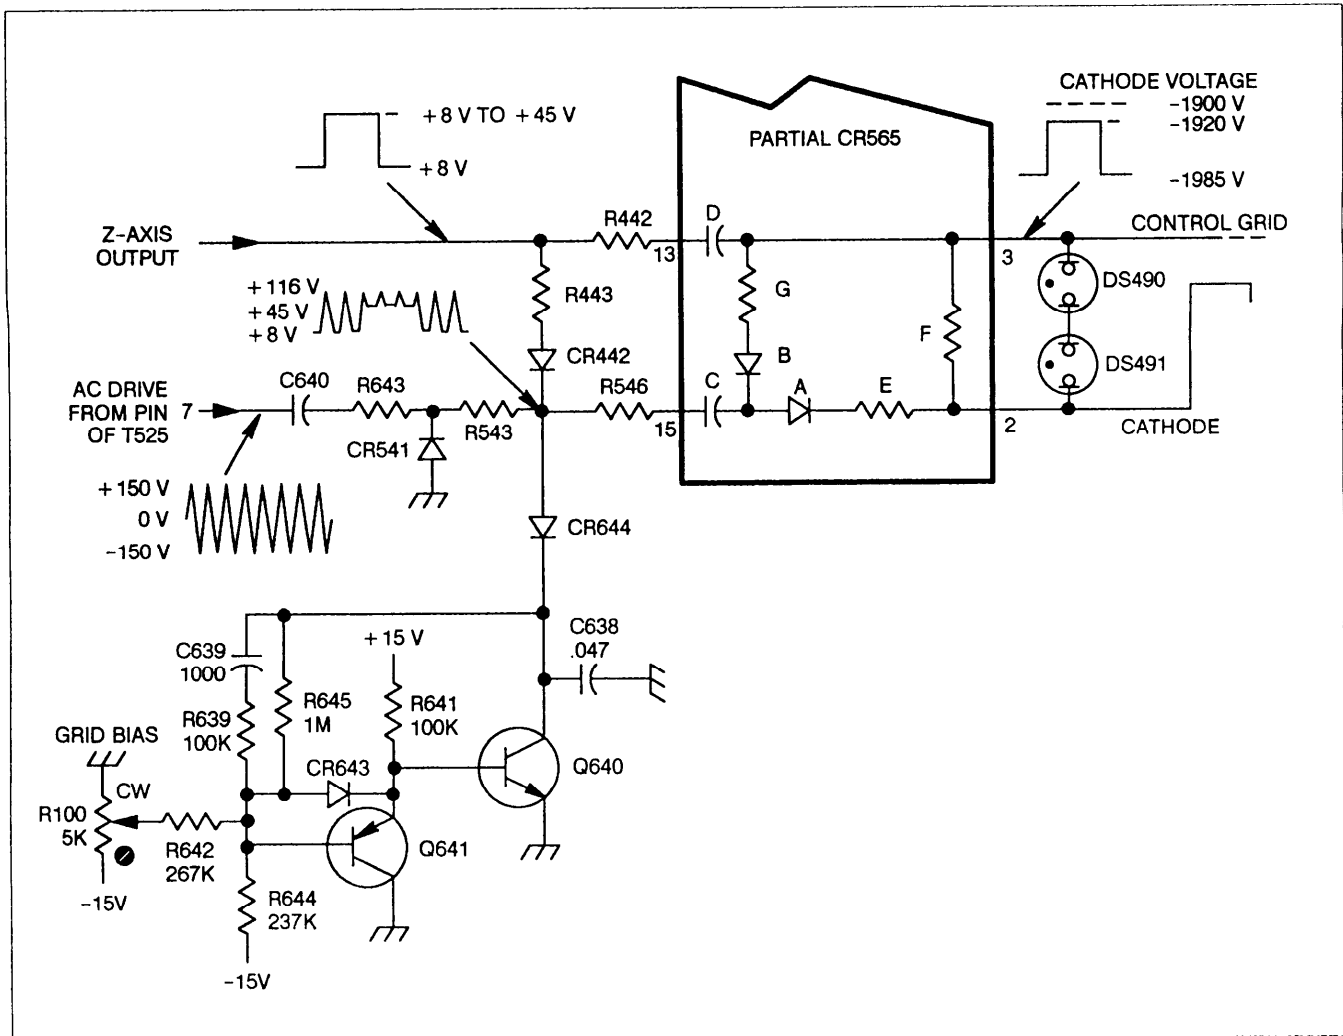

Figure 3-10. DC Restorer.
The DC Restorer provides CRT control-grid bias and couples both the DC and the low-frequency components of the Z-Axis drive signal to the CRT control grid. This circuit allows the Z-Axis Amplifier to control the display intensity by coupling the low-voltage Z-Axis drive signal (VZ) to the elevated CRT control grid potential (about -1.9 kV). Refer to Figure 3-10 for the following description.
**DC RESTORATION.** The DC Restorer circuit in the High-Voltage Module is referenced to the CRT cathode voltage via a connection within CR565. Capacitor C (labeling shown in fig. 3-10), connected to pin 15 of CR565, initially charges to a level determined by the difference between the Z-Axis signal level and the CRT cathode potential. The Z-Axis signal sets the level on the positive plate of capacitor C through R443, CR442, and R546; the level on the negative plate is set by the CRT cathode voltage through resistor E and diode A. Capacitor D is charged to a similar DC level through resistor F and R442.